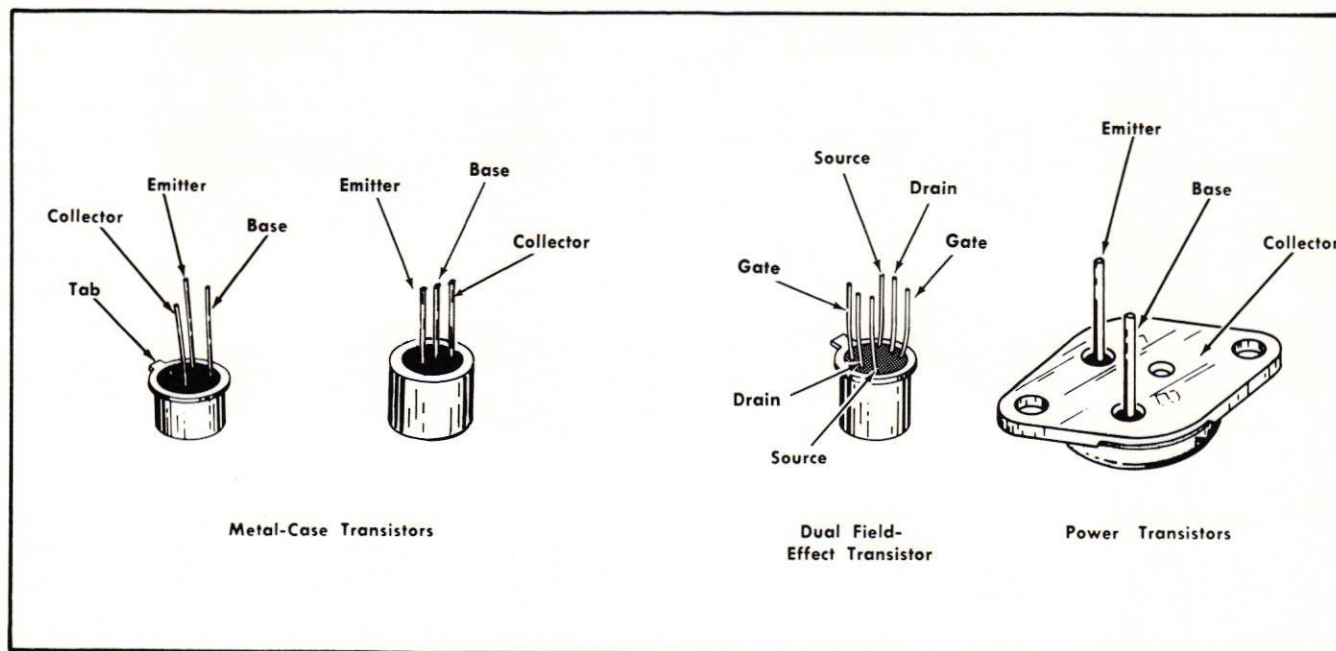

Fig. 4-2. Electrode configuration for transistors in this instrument (as viewed from bottom).
**Transistor Lead Configuration.** Fig. 4-2, shows the lead configurations of the transistors used in this instrument. This view is as seen from the bottom of the transistor.